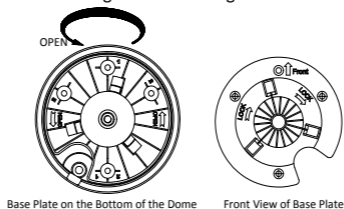
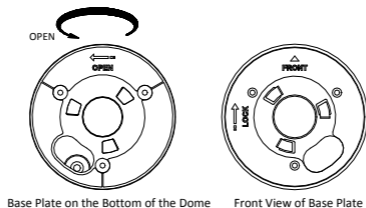

Figure 2-19 Base Plate for PTZIP4XX Series PTZ Camera
Figure 2-20 Base Plate for PTZIP4XX Series (IR) PTZ Camera
1. Rotate the base plate counterclockwise to separate it from the PTZ camera, as shown in Figure 2-19 and Figure 2-20.